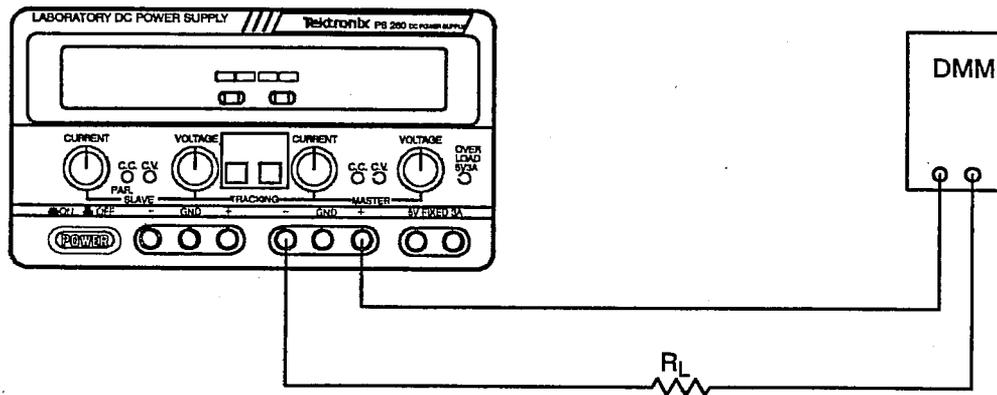

Figure 4-3: Constant Voltage Test Setup
- Connect the digital multimeter and load resistors to the + and - terminals of the Master output as indicated in Figure 4-3. See Table 4-4 for the appropriate values of the load resistor.
- Connect the digital multimeter and load resistors to the + and – terminals of the Slave output as indicated in Figure 4-3. See Table 4-4 for the appropriate values of the load resistor.
- Connect the digital multimeter and load resistors to the 5 V FIXED terminals. Use the test setup illustrated in Figure 4-3 and see Table 4-4 for the appropriate values of the load resistor.